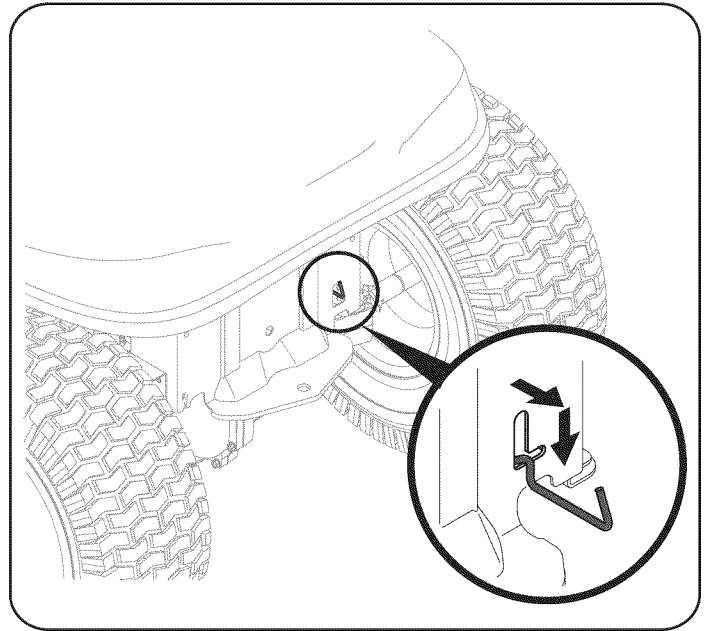

Figure 12
1. Locate the hydrostatic bypass rod in the rear of the tractor. See Figure 12.